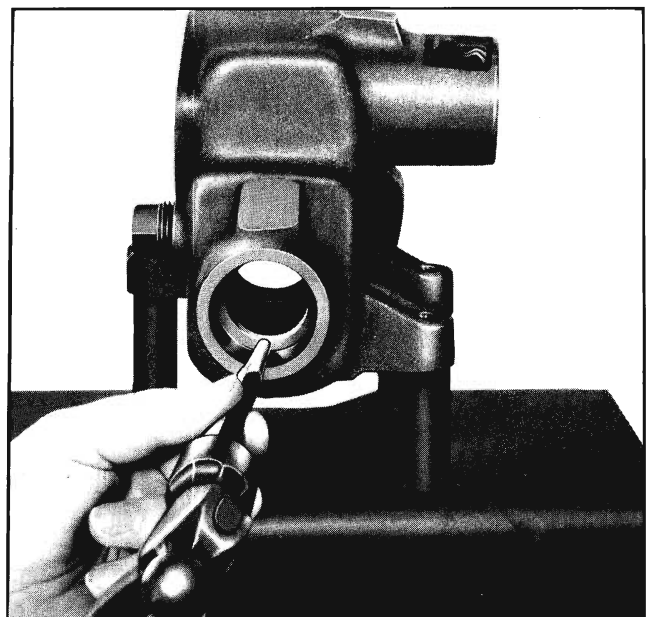

Fig. 9-26 Removing Upper Bearing Cup
2. Remove upper bearing cup with punch (Fig. 9-26).